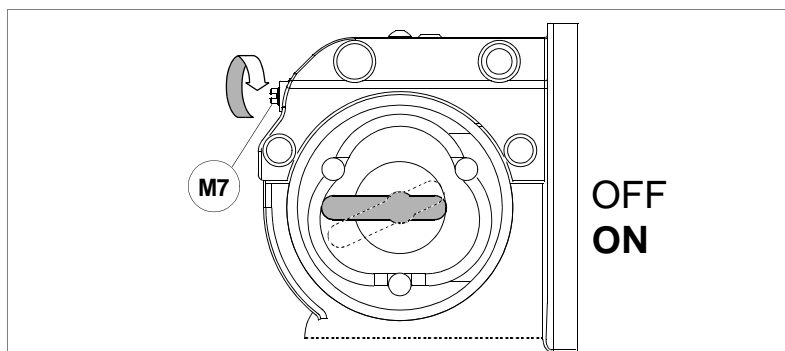

Fig. 148
- 8) Use a screwdriver to turn the screw (M7) clockwise (fig. 148), the state changes to ON, tighten the grub screw (M6).